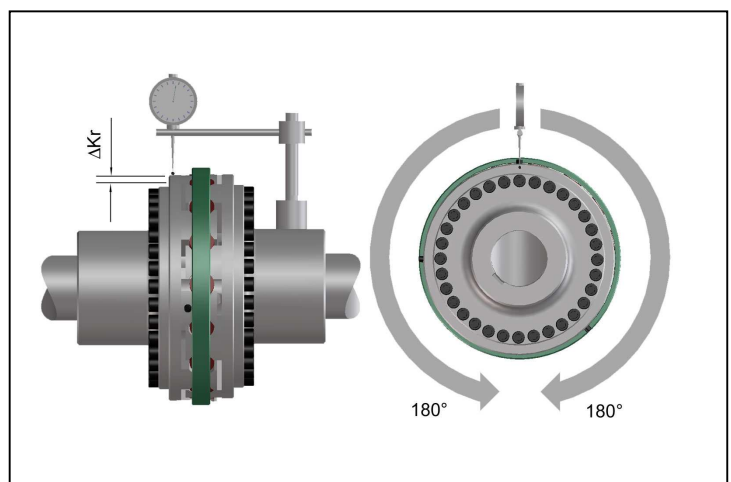

Fig. 9
- Measure one complete revolution (360°). Determine the largest deviation K_{r1} and the smallest deviation K_{r2} (Fig. 9).